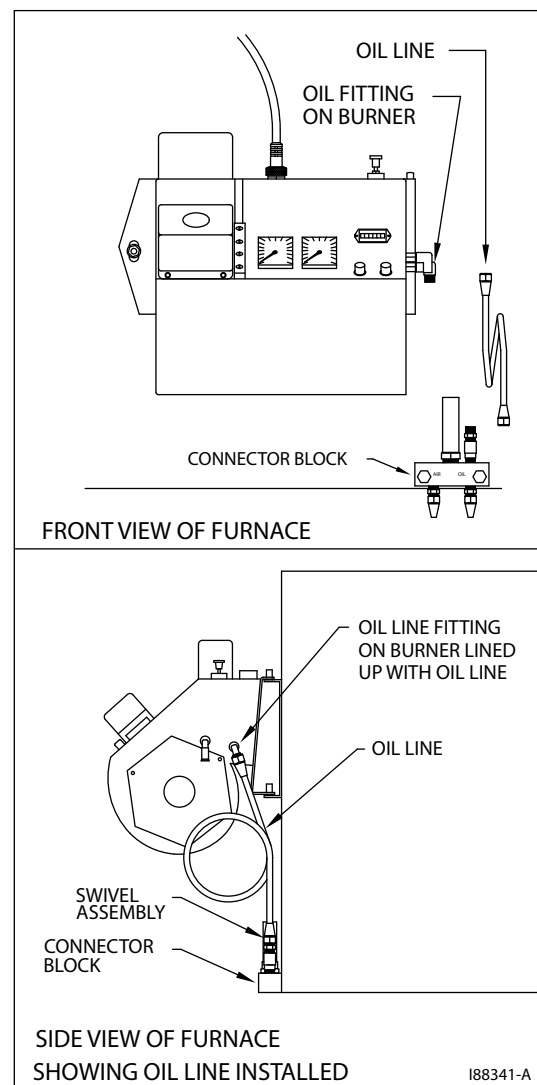

Figure 3L - Installation of Connector Block and Oil Line
1. Refer to Figure 3L.
2. Use the two (2) bolts to install the aluminum connector block onto the furnace cabinet.
3. Use a wrench to slightly rotate the oil line fitting on the burner counterclockwise so the tubing lines up with the swivel assembly. Slightly bend the tubing as shown in Figure 3L, if required, to "line up" the oil line.
5. Make sure that the curl in the oil line is positioned as shown in Figure 3L so that the burner can swing open correctly.